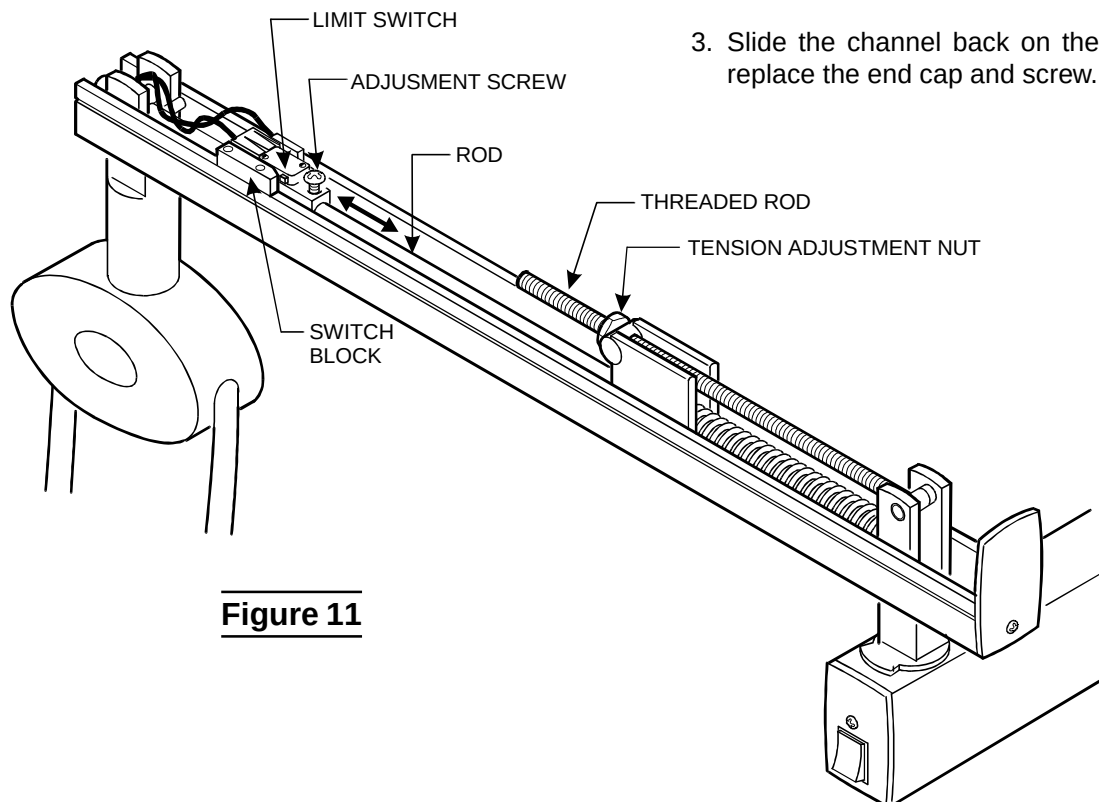

Figure 11
2. Tighten or loosen the nut on the threaded rod to increase or decrease the tension on the compression spring (See Figure 11).
3. Loosen the adjustment screw and slide the limit switch along the rod until it makes contact with the switch block and the light turns OFF (See Figure 11).